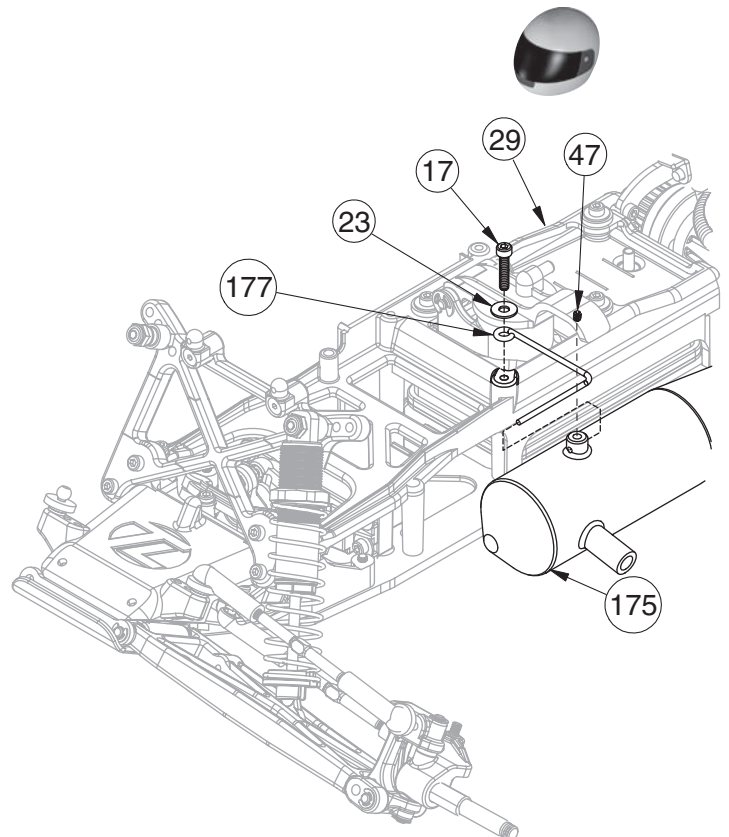

Figure H-13
- ❑ 1. Insert the straight end of the Pipe Mount Bracket (177) into the unthreaded hole in the mounting stud on the Tuned Pipe (175) so that the bend is behind the mounting stud. Thread a 5-40 Set Screw (47) into the threaded hole at the top of the mounting stud of the Pipe but do not tighten completely.
- ❑ 2. Place a #4 Washer (23) over a 4-40 x 3/8" Cap-Head Screw (17). Position the loop of the Pipe Mount over the hole just forward of the Fuel Tank in the Center Brace (29). Place the 4-40 Screw and Washer through the loop in the end of the Pipe Mount and thread it until tight as shown in Figure H-13. Tighten the 5-40 Set Screw in the top of the Pipe Mount on the Pipe.